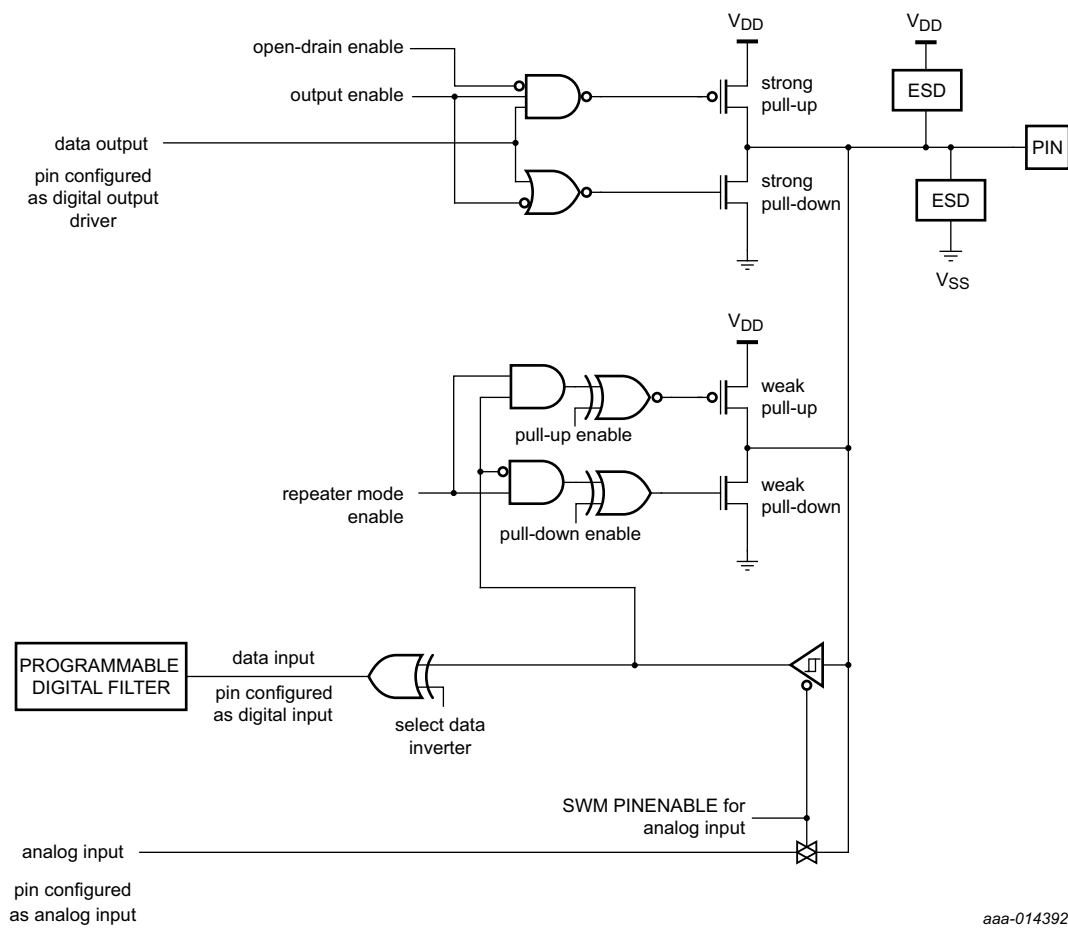

Fig 9. Standard I/O pad configuration
Figure 9 shows the possible pin modes for standard I/O pins with analog input function:
- Pull-up/pull-down configuration, repeater, and open-drain modes can be programmed through the IOCON block for each GPIO pin (see Figure 9).